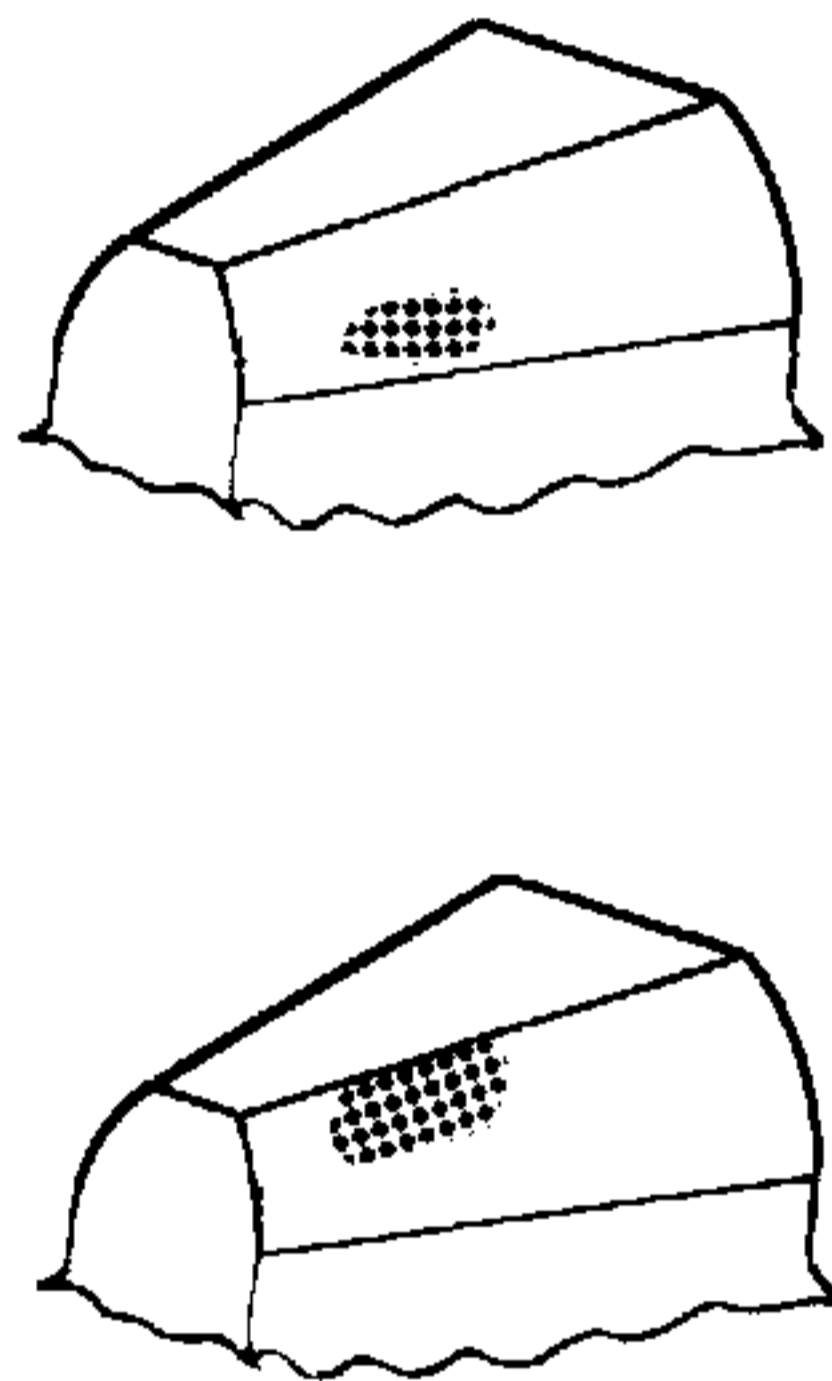

Figure 5-98. Inspecting Gear Teeth.
4. Inspect all gears for chipped or missing teeth or damage to splined areas. Also inspect gear tooth bearing position. Refer to Figure 5-98. Tooth bearing position from root to crown of tooth is controlled by lateral position of pinion shaft. If adjustment is necessary, it will be done during reassembly. Replace badly damaged gears.